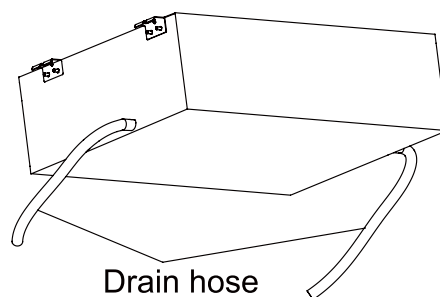

Fig.17
6. There is a drain port on both the left and right sides. Select the drain port to match the local conditions.(Fig.17)